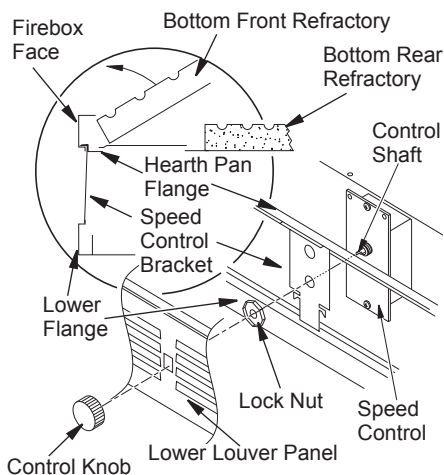

Figure 8: Attaching Speed Control to Firebox with Panel Louvers Using Speed Control Bracket 109892-02
- Position speed control bracket by inserting flange of bracket between hearth pan and upper flange of louver opening, then seat bottom end of bracket onto lower flange of louver opening (see Figure 8).
- Mount speed control box by placing plastic control shaft through bottom hole on speed control bracket. Top screw head on control box will fit inside top hole on bracket (see Figure 8). Secure speed control to bracket with lock nut by pushing and turning lock nut with pliers clockwise until it is tight against bracket.
- Place louver panel, louvers pointing up, back into framed opening. Align control shaft with rectangular opening by sliding control bracket along flange (see Figure 8).
- Place control knob, provided, onto control shaft (see Figure 8).